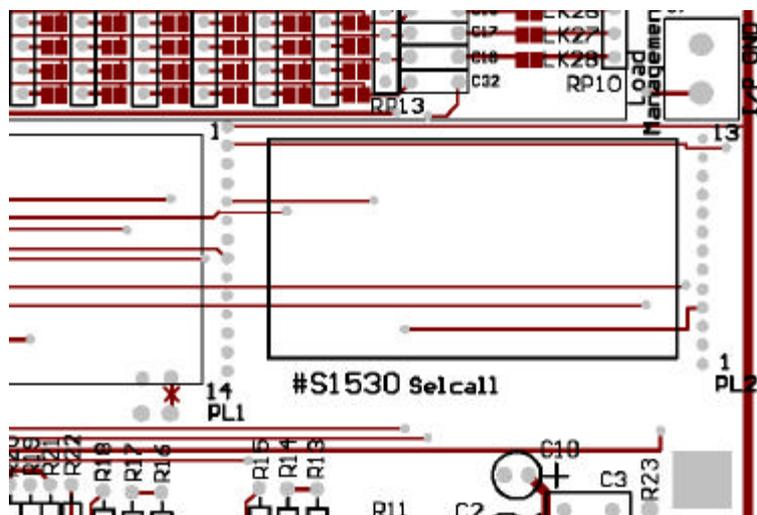

Fig 4.
13. Connect the programmed S1530 module to the connectors installed in Step 2, and using the double-sided tape provided with the S1530, attach the module to the space provided on the A800-SIM3a PCB. Refer to Fig 4.